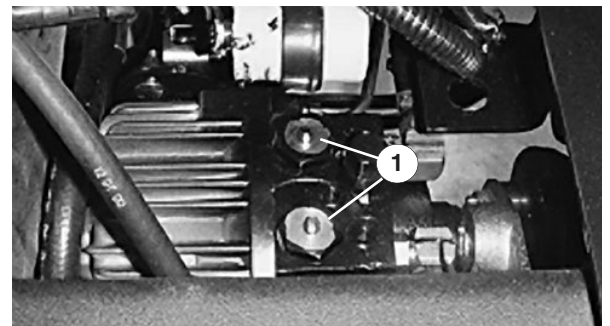
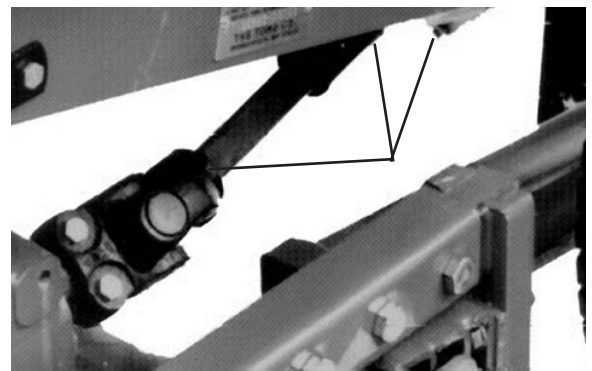
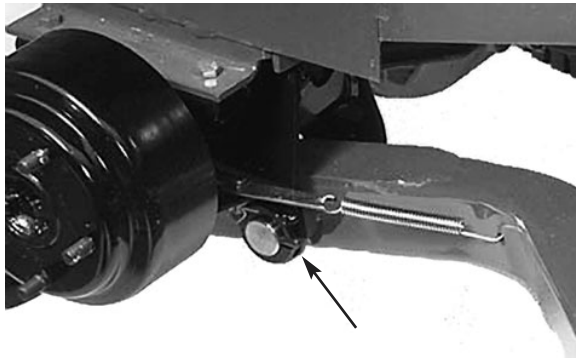
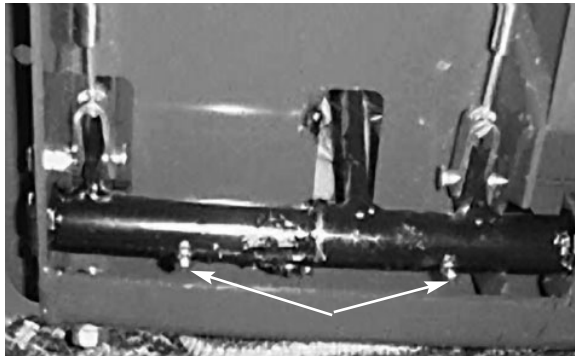

Figure 14
Figure 15
Figure 16
Figure 17
2. Depress and hold the pins located in the center of the two (2) check valve assemblies in the top of the transmission (Fig. 14) while pushing or towing the machine.
Apply a liberal coating of grease to the check valve pins once each year (Fig. 14). Also grease the bearings in the rear axle every 500 hours, or yearly, whichever comes first (not shown). The traction unit has bearings and bushings that must be lubricated, and these lubrication points are: power take-off universal shaft (Fig. 15); lift arm pivot bushings (Fig. 16), brake pivot bushings (Fig. 17); drive shaft (3) (Fig. 18); tie rod ends (2), cylinder rod ends (2), steering pivots (2) and axle pivot pin (Fig 19); power take-off tension pivot (Fig. 20) and rear power take-off bearing (Fig. 20). Also apply grease to both brake cables at the drive wheel and brake pedal ends (Fig. 17).